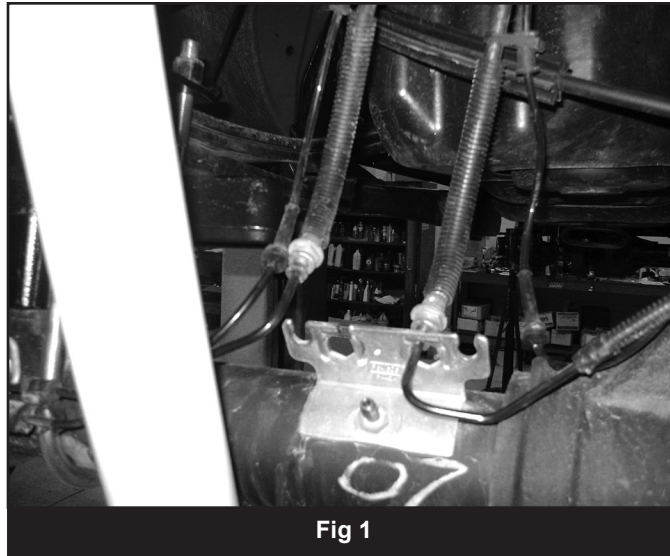

Fig 1
10. Remove the ABS wires from the axle bracket. Remove brakeline retaining clips holding brakeline hardlines in place. Pull the brakelines through the mounting bracket and trim a slot to remove them from the bracket. Use extra caution to not damage the brakelines. (Fig 1).
11. Disconnect the passenger's side spring u-bolts. Using two C-Clamps, clamp the leaf spring on each side of the top u-bolt plate. (Fig 1) Remove the center pin nut and remove the u-bolt plate. Reinstall the center pin nut and torque to 40 ft-lbs. The u-bolts, top plate and bottom plate will not be reused.